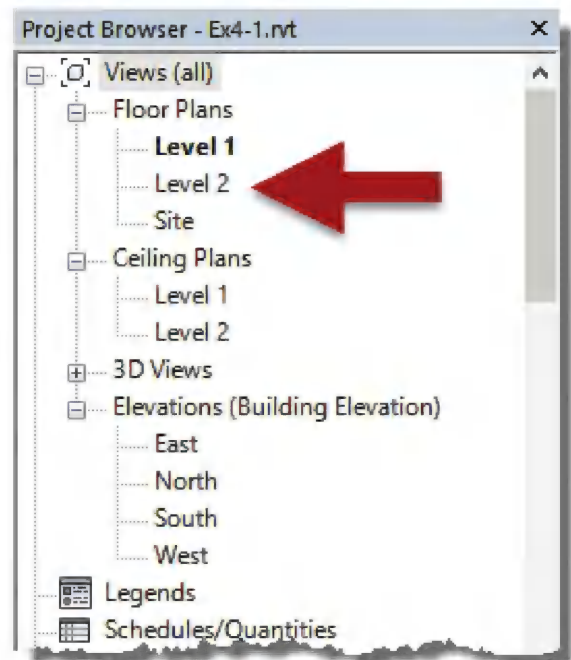

FIGURE 4-1.1 Project Browser; Level 2 view
2. In the *Project Browser*, double-click on the **Level 2** view under Floor Plans (Figure 4-1.1).